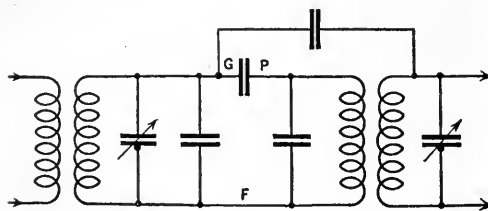

FIG. 3
**R**ICE (C. W. Rice, United States Patent No. 1,334,118) has suggested a capacity balance which is in effect Fig. 3. By this method, the coupling effect of the grid-to-plate capacity is balanced by a capacity of equal value connected between the plate and an input coil being opposite potential to the grid.